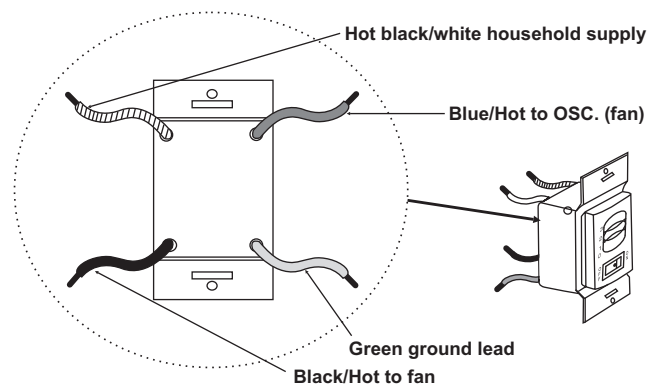

Figure 6
3. Make speed control wire connections (Fig. 6). Ensure that bare wires are fully inserted into their terminals with no loose strands and that terminal screws are fully tightened.